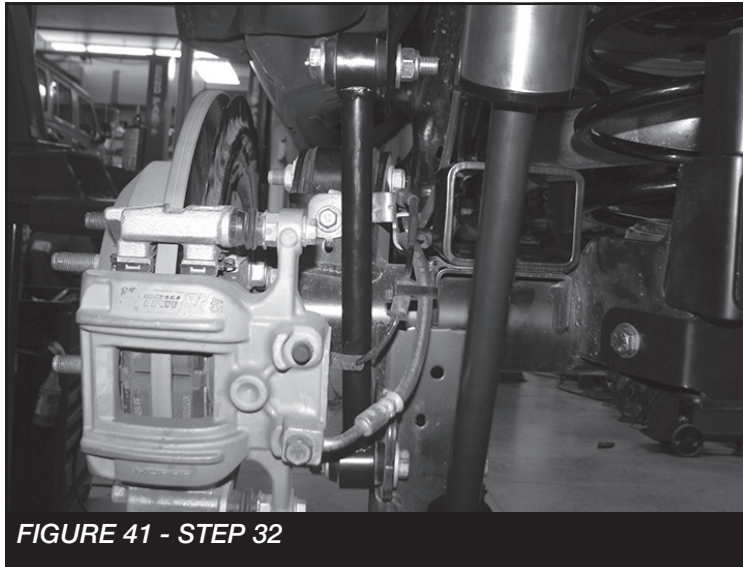

FIGURE 41 - STEP 32
33. Install the FT50048 (Bushings) and FT404739 (Sleeves) into FT50026BK (Rear sway bar links). Then, install the new links to the sway bar and sway bar mount on the axle using supplied M12 x 70mm hardware for the upper location and the factory for the lower. Torque to 100 ft-lbs **SEE FIGURE 41**